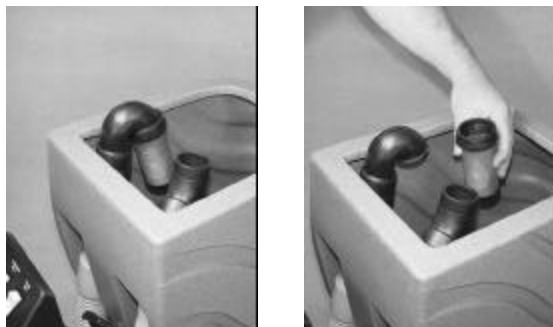

FIG. 15
2. Remove float shut-off screen from recovery tank and clean (Figure 15.)